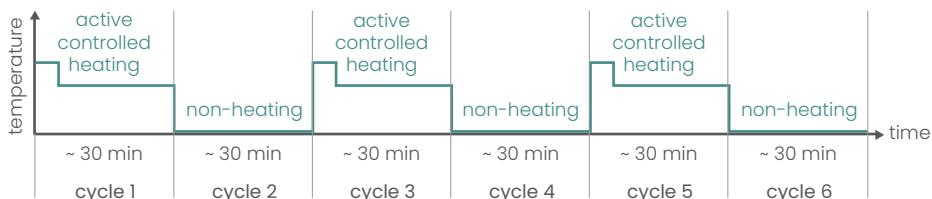

Figure 5.1
- 30 minutes of non-heating(see Figure 5.1)